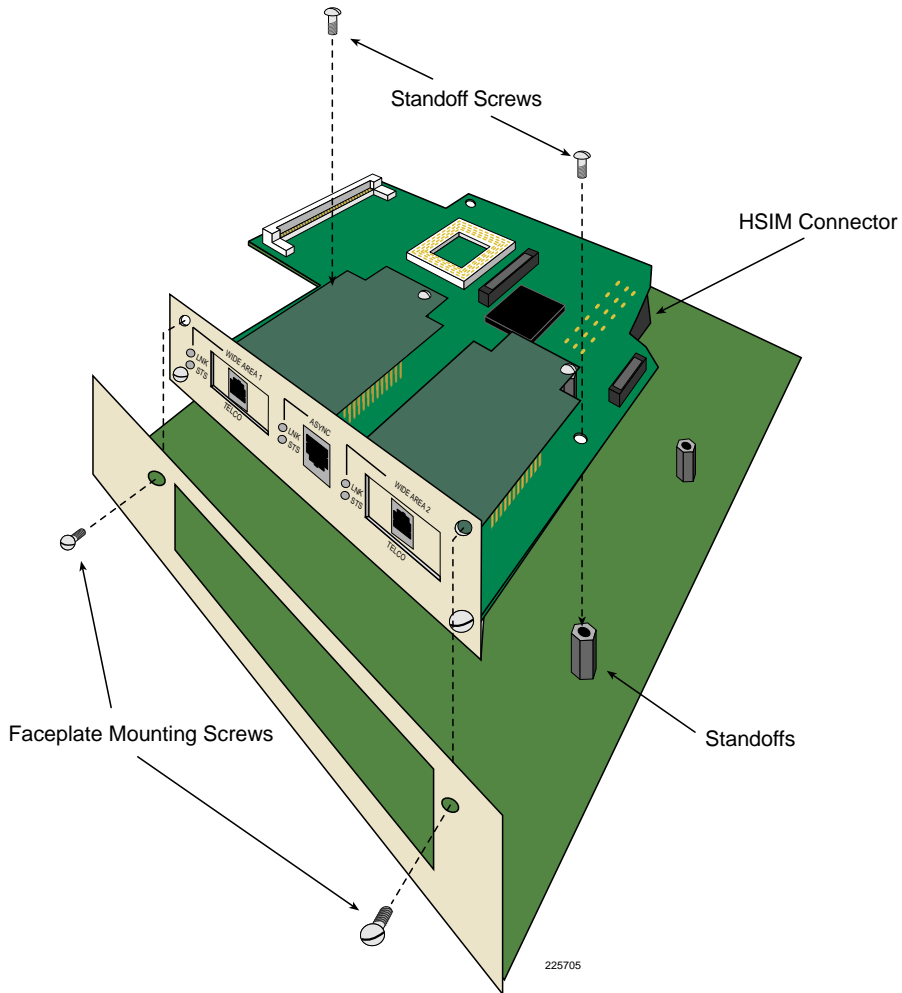

Figure 15 Installing the HSIM
To install an HSIM in a module that supports HSIM technology refer to **Figure 14** and **Figure 15** and complete the following steps:
7. Place the HSIM behind the module faceplate. See **Figure 15**.
To install an HSIM into a SmartSWITCH chassis that supports HSIM technology refer to Figure 14 and Figure 15, and perform the following steps:
7. Place the HSIM behind the chassis faceplate. See **Figure 15**.